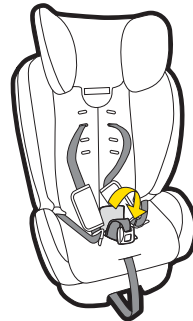

Figure 1
Step 1: Can the child sit with their back against the vehicle seat back? (refer Figure 1).
Step 1: Disengage the buckle, undo the cover flap located between the leg straps and place the buckle in the recessed section of the plastic base. Close the flap in the cover (Refer to Figure 1 & 2).
Ensure the recline section is swung rearward (see Figure 1). At the front of the restraint is a red* lever. Pull red* lever forward and slide the restraint to obtain the desired upright or reclined angle.
Step 1: Pull excess strap through the top section (1) whilst feeding the adjuster section (2) towards the seat (see Figure 1).